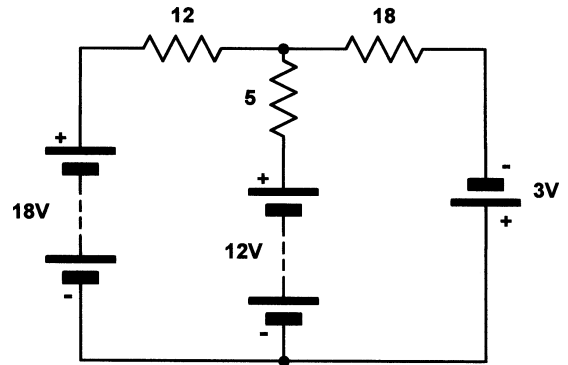

Figure A2.8
19. Determine the current flowing in each resistor and voltage dropped across each resistor in Fig. A2.8. [Page 46]